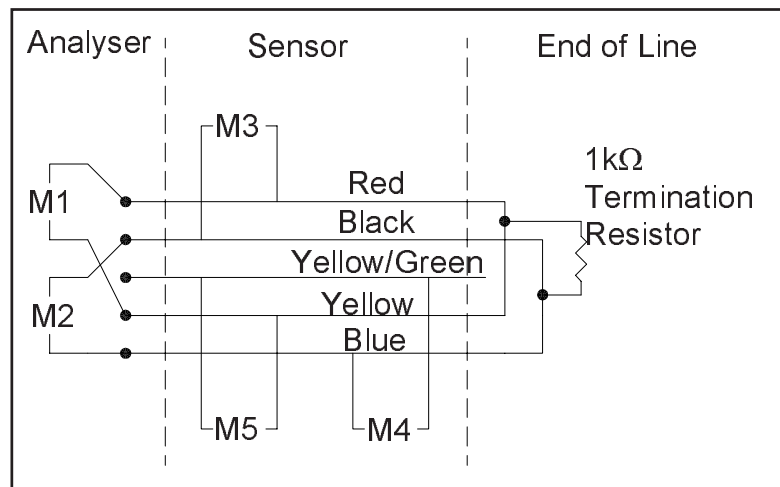

Figure 26
1. Set the multi-meter to read resistances on the  $200\Omega$  range. At the analyser end measure the resistance of the loop formed by the red and yellow wires (M1, Figure 26) and note the value.
2. Again, at the analyser end measure the resistance of the loop formed by the black and blue wires (M2, Figure 26) and note the value.
5. At the analyser measure the resistance between the red wire and the black wire. (M3, Figure 26)
6. Set the meter range to 2000kΩ range and check that the resistance between the green/yellow earth wire and the yellow wire is greater than 1MΩ (M5, Figure 26). Repeat this test to verify no leakage between the blue wire and the earth wire (M4, Figure 26).